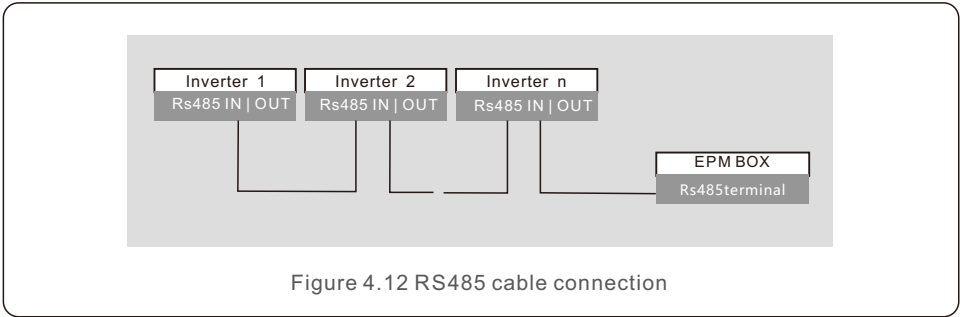

Figure 4.12 RS485 cable connection
- b. Refer to figure 4.12, connect communication cable between inverter and EPM, the RS485 line length between the inverter 1 and EPM should less than 1000 meters.